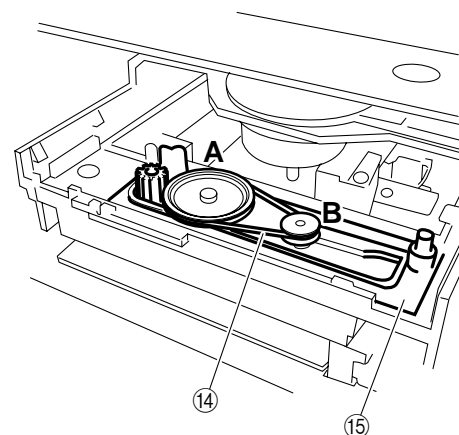

Fig. 8
- Remove the belt (14) visible from the front with tweezers or the like. (Fig. 8)
- Using tweezers or the like, install a new belt to the pulley A first and then B as shown in Fig. 8. At this time, use care so as not to allow the belt to be twisted or grease to attach to it.
- Slide the slide gear (15) to the right to attain the state with the pick-up mechanism lowered. (Fig. 8)